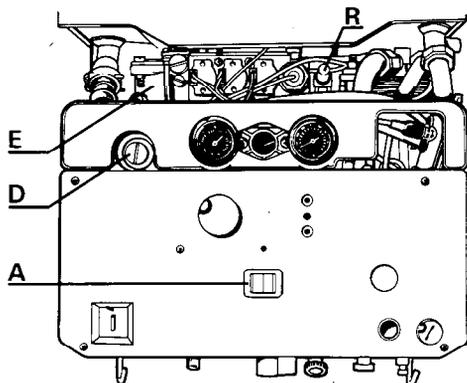
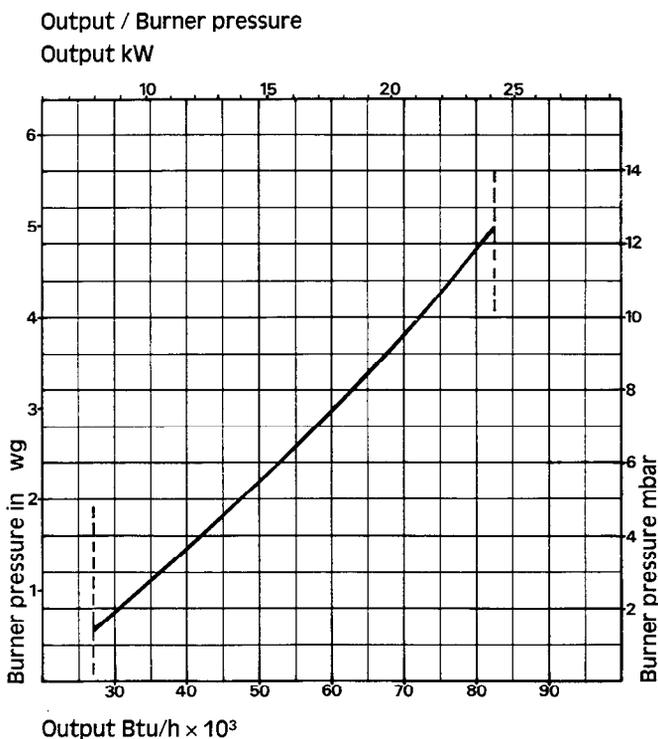

Fig. 35
Fig. 37
- 4) Vent automatic air separator/air purger by loosening screw (fig. 35) (E) two complete turns from closed position.
N.B. Leave screw (E) in open position.
- 8) Manually check pump is free to rotate. Remove cap (fig. 35 D).
- 9) Switch to HOT WATER + CENTRAL HEATING on selector switch (A) (fig. 35) switch position (II).
- 11) Isolate water supply and drain boiler by disconnecting fill system and opening the drain valve (F). This is incorporated in the safety valve and is achieved by screwing down the head until the valve lifts. Open all low level drain cocks.
- 12) Remove filter in the return isolating valve (C) and inspect for any installation debris, see section (7.6) to clean and replace.
- 1) Switch boiler to the off (O) central position, see section 6.3 (fig. 35).
- 2) Remove the pressure test point screw - (B) and connect a suitable pressure gauge.
- 3) Remove the hexagonal cap from gas rate adjuster exposing the adjusting screw (C).
- 4) Switch the boiler to hot water and central heating (II) and check that any fitted external controls are calling for heat.
- 5) Adjust. Setting pressures are given in graph figs. 37 and 38. The pressure will be reduced by clockwise movement of screw, increased by anticlockwise movement. Now select hot water only, adjust temperature knob, see fig. 4 (25), to minimum and open the largest volume draw-off tap. The gas pressure should now be the maximum as indicated in Technical Data. Now reduce the water flow to minimum and check that the burner reduces its output, this will take a short period of time.
- 6) Switch boiler off (O). Remove pressure gauge and replace test point screw and gas rate adjuster hexagon cap. Check for gas soundness around screw.